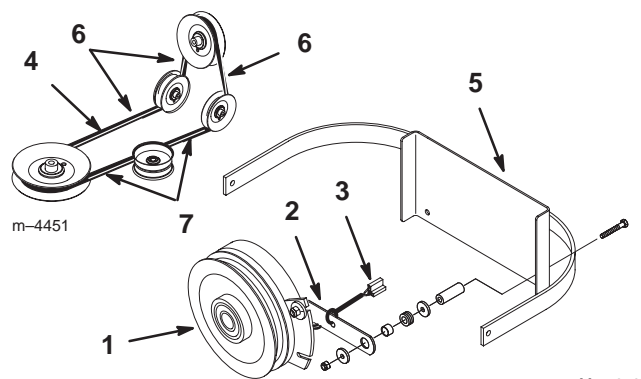

Figure 49
2. Remove the clutch retaining strap from machine frame and unplug clutch terminal from wire harness (Fig. 49).
3. Remove PTO drive belt from rear idler arm and front idler pulley assembly. Remove the PTO drive belt (Fig. 49).
4. Place new drive belt over clutch, around rear idler pulley, installed into rear idler arm assembly, installed into front idler pulley assembly and onto top center pulley (Fig. 49).
IMPORTANT: Check the amount of twist in belt between pulleys. Make sure it is only what is specified in figure 49.
5. Install clutch retaining strap and plug clutch terminal into main wire harness (Fig. 49).